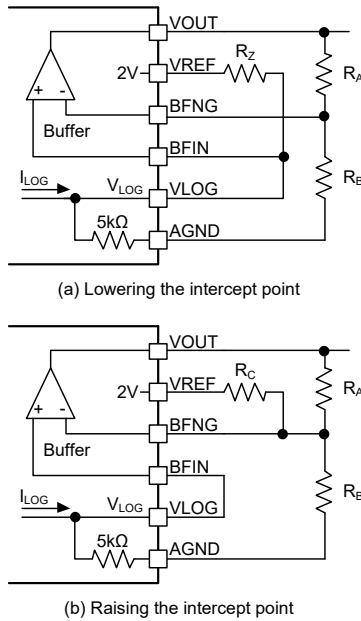

Figure 10. Adjusting the Intercept Point and Scaling
The on-chip buffer amplifier and voltage reference can be used for adjusting the output intercept point and the scaling needed to match the desired signal level of the downstream process. Figure 10 shows the circuits that can be used for lowering or raising the intercept point.
Usually it is more useful to raise the intercept point. Note that raising the intercept point reduces all output values. Figure 10 (b) shows how the intercept point is raised by placing the R_C between the BFNG and VREF pins. This arrangement raises the BFNG voltage (with zero input signal) and pushes the VOUT to lower values. Note that with the R_C connected to the BFNG pin, the gain (G) is also affected, but it can be compensated and re-adjusted by R_A and R_B . Use the following equation for calculating the resistors (Figure 10 (b)):